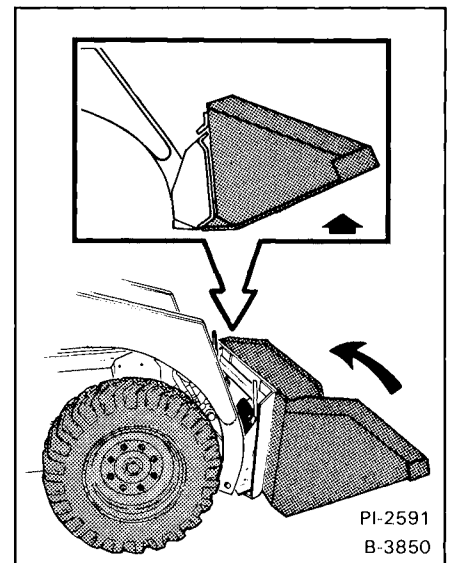

Fig. 30 Lifting the Bucket
3. Tilt the Bob-Tach backward until the bucket is off the ground (Fig. 30) and stop the engine.